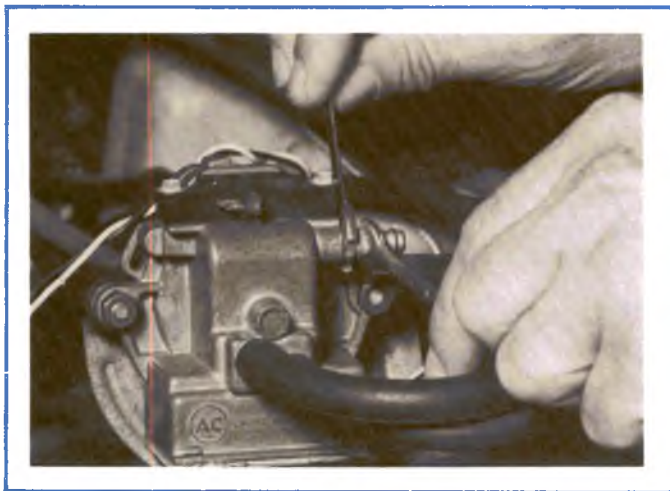

Figure 1-22, Adjusting the Orifice Tube Changes Cruise Speed.
Step 2 If no defect is found during Step 1, adjust the orifice tube (figure 1-22).